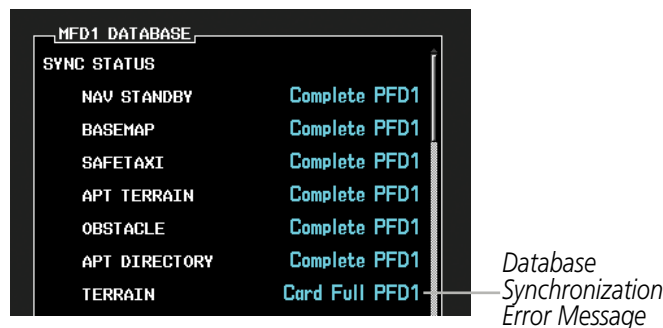

Figure B-6 Synchronization Error Message
If an error occurs during the synchronization, an error message will be displayed, followed by the affected display in the Sync Status section of the Database Window (Figure B-6). If a synchronization completes on one display, but an error occurs on another, the error message will be displayed with the affected display listed after it. When an error message (Table B-1) is displayed, the problem must be corrected before the synchronization can be completed. A power cycle is required to restart synchronization when ‘Card Full’ or ‘Err’ is shown.
- 8) Monitor the Sync Status in the Database Window. Wait for all databases to complete synchronization, indicated by 'Complete' being displayed as seen in Figure B-6.